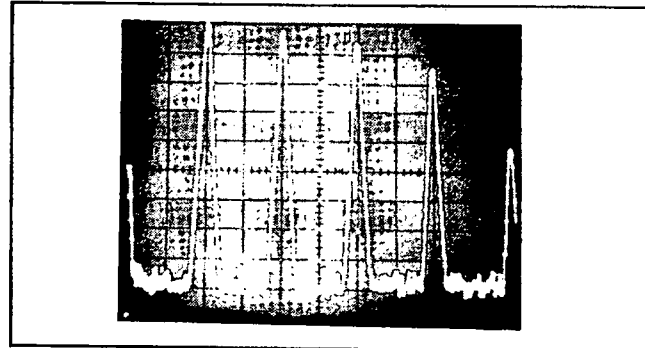

Figure 4-26. Store Button Released.
video amplitude on the display is the same for each pair of X-Axis segments. Because of this redundancy, a series of dots appear on the display (Figure 4-26). The dots are automatically cleared when the memory contents are updated by a new frequency sweep.
4-172. Notice that the (L)COUNT line is driven low from 00100100000000 to 11000000010000. The difference of these two binary numbers is 1001100010000; the decimal equivalent of this is 10,000. So, the (L)COUNT line goes low for 10,000 counts. Since the binary number is counting at a rate of 50 kHz (Q1 is a 25 kHz square wave) each count is 20 μ sec in duration. The (L)COUNT line goes low for 10,000 counts times 20 μ sec/count, or 200 msec. The accuracy of this time is dependent on the accuracy of 100 kHz Reference signal. The remaining time durations of the control pulses can be calculated in this manner; they are illustrated in Figure 4-26 for your convenience.